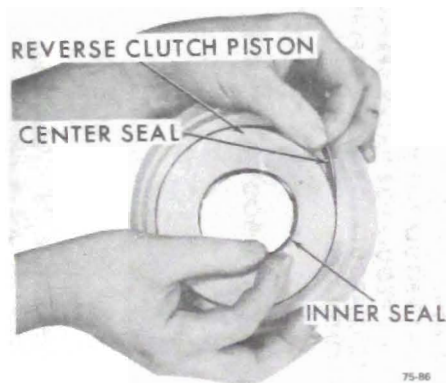

Figure 75-241
2. Install low and reverse clutch piston center and inner seal. See Figure 75-241.